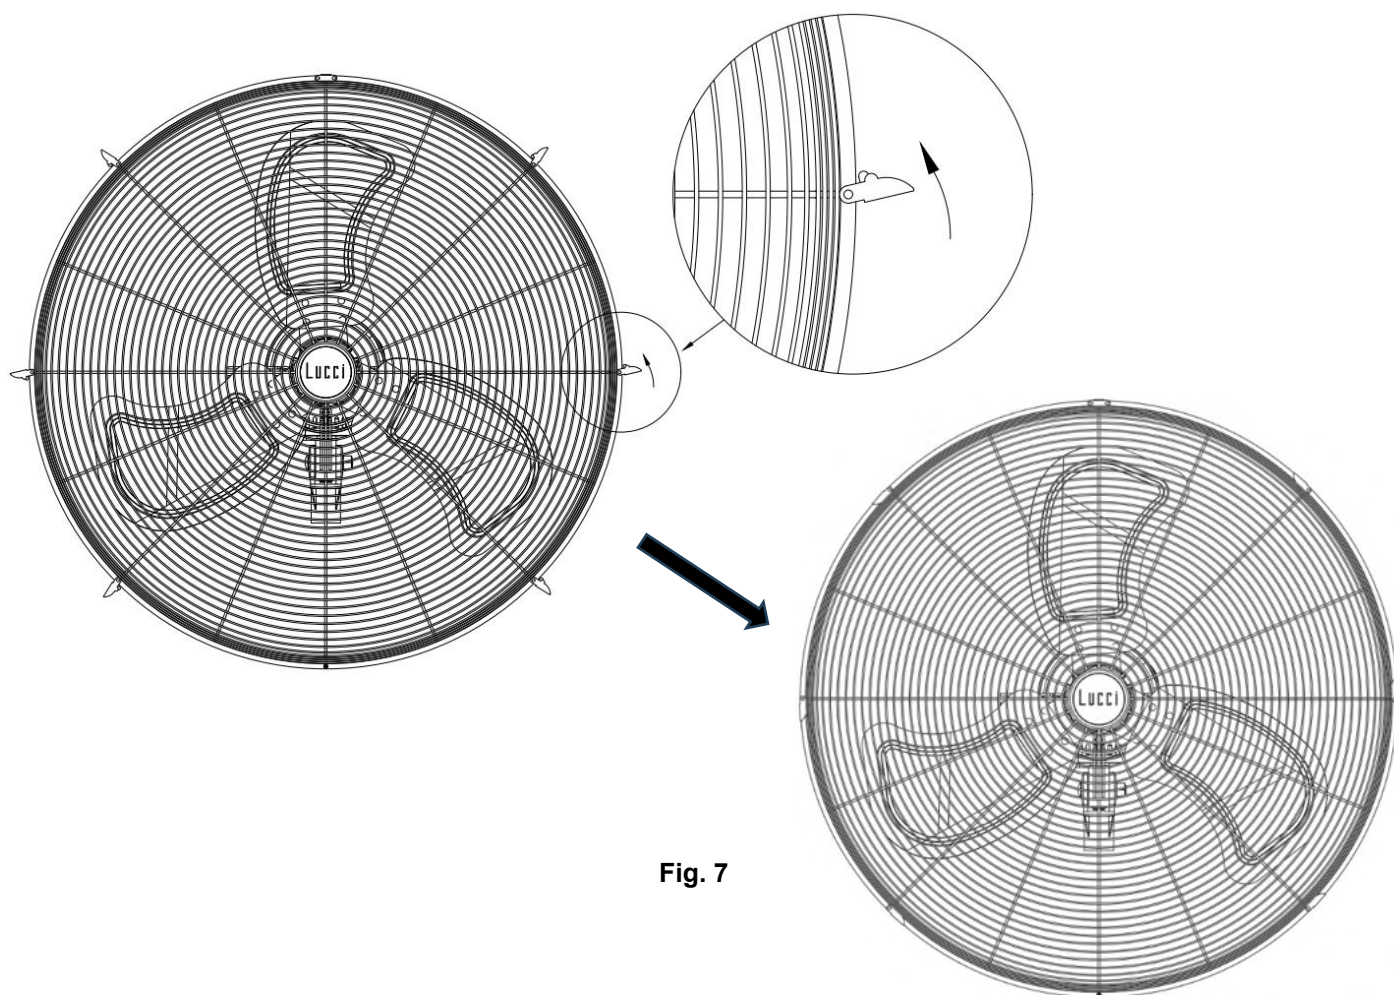

Fig. 7
7. Close the safety clips of the front grill and rear grill. (Fig. 7)